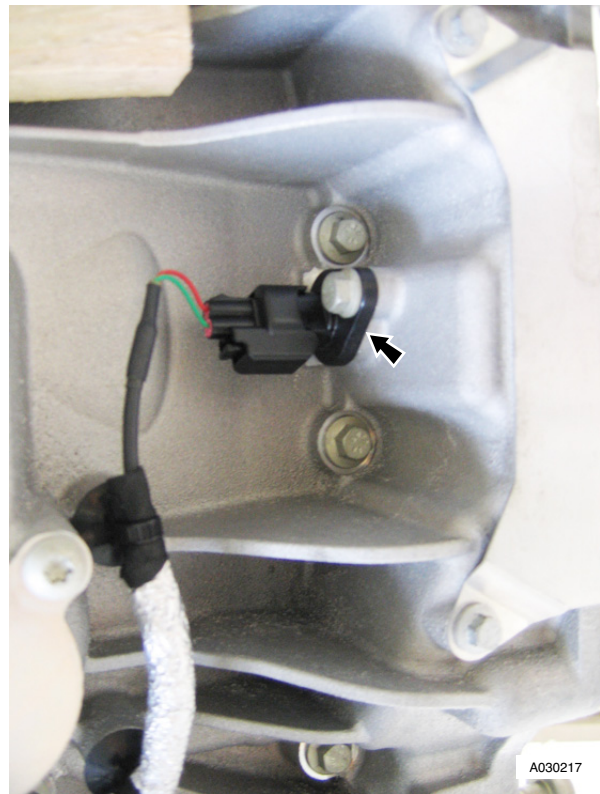

Fig. 12
28. Disconnect multiplug (x1) crankshaft sensor (see Fig. 12).